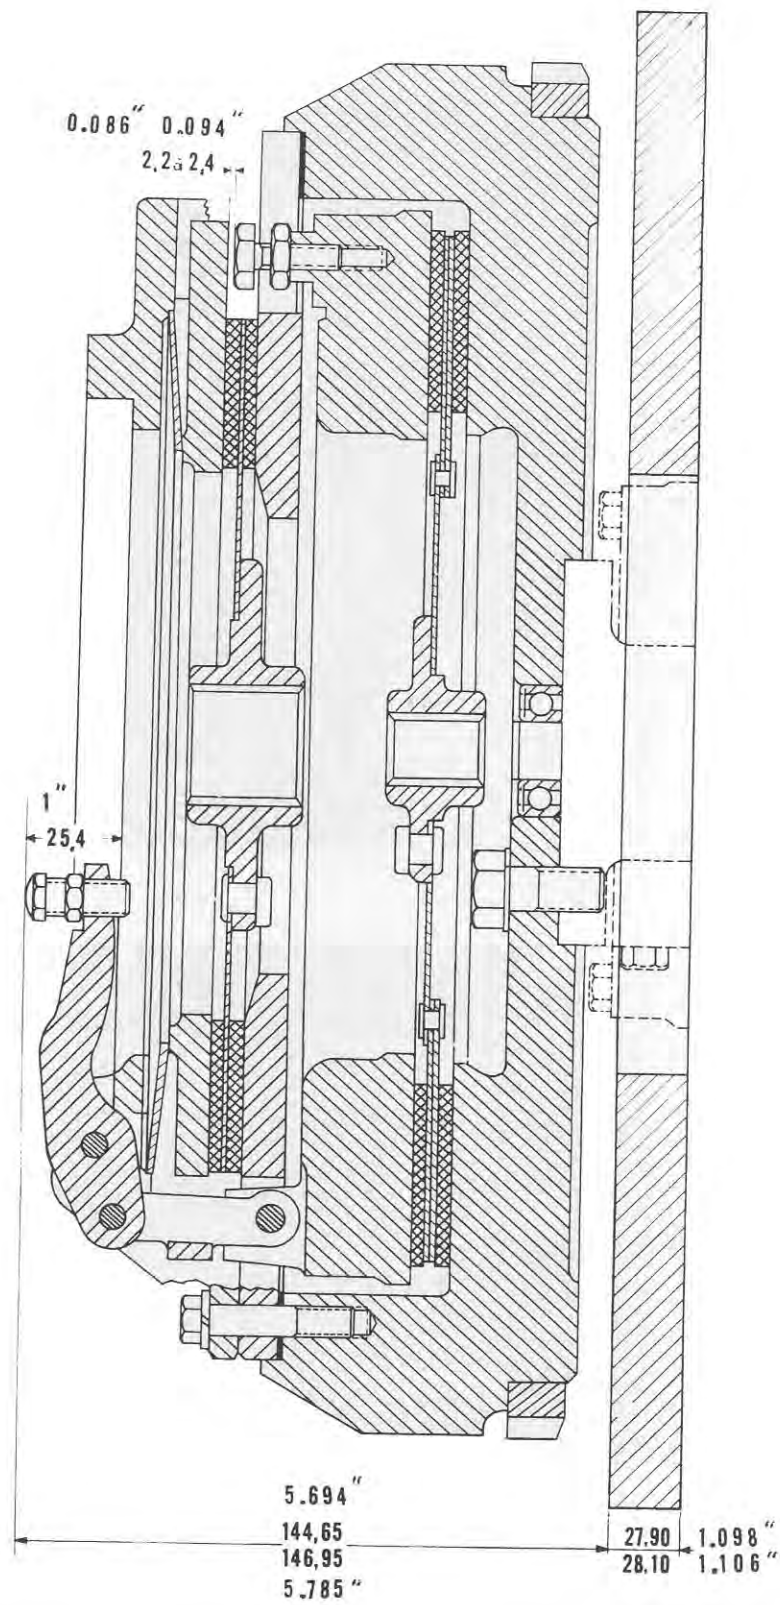

Fig. 11
The heads of the adjusting screws of the clutch fingers should be adjusted to 5.74" (145.80 mm) above the rear face of the adaptor plate with a maximum tolerance of 0.015" (0.4 mm) between the screws (Fig. 11).
Adjust the three secondary clutch release screws to give a clearance of 0.086 to 0.094" (2.2 - 2.4 mm) from the secondary pressure plate (see Fig. 11).
**NOTE:** After several successive adjustments, it is possible that due to wear of the friction linings, it will no longer be possible to get complete disengagement of the clutch, particularly the P.T.O. clutch. In this case check the clearance of the three clutch finger adjusting screws (OPERATION H7 - Fig. 11). It is not necessary to split the tractor as this operation can be done through the lower clutch housing inspection cover.